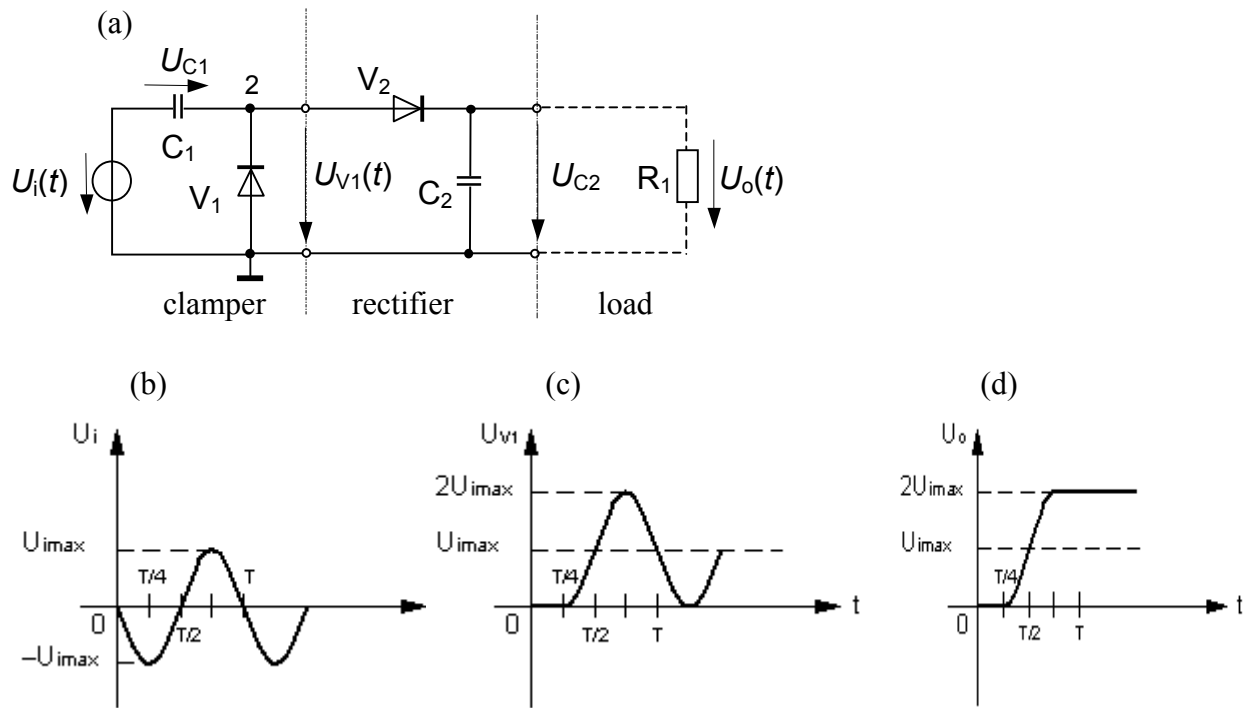

Fig. 4.3 Voltage Doubler
In the circuit of Fig. 4.3 (voltage doubler) the positive clamper is followed by a half-wave rectifier (see former experiment). Although the input to the rectifier is a pulsating and not an alternating voltage (see Fig. 4.3 c) the capacitor C2 will be charged to the maximum voltage
$U_{C2} = 2 \cdot U_{i \max}$ (see Fig. 4.3 d). In absence of a load to the capacitor C2 the output voltage will keep constant at the double value of the input voltage:
1. Identify how to realize the voltage doubler (see Fig. 4.3 a);